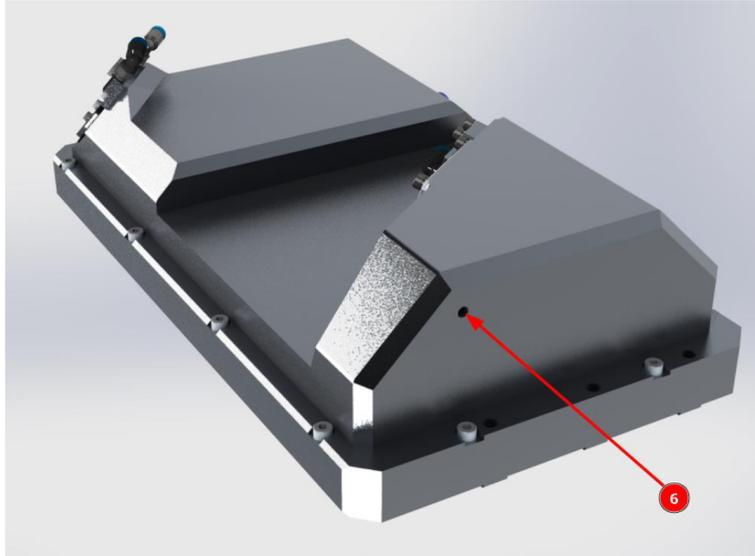

Figure A2.2
1. Unscrew the two plugs of the scanner (6 and 7, see Figures A2.2 and A2.3).
2. Insert the fitting (M5 thread) into one of the holes (6) of the scanner.
3. Insert the tube from the dehumidifier outlet (4) into the scanner fitting.
5. Close the dehumidifier outlet valve, plug the scanner outlet (7), open the dehumidifier valve.
7. Close the dehumidifier outlet valve, disconnect the fitting from the scanner and plug the hole (6) immediately.